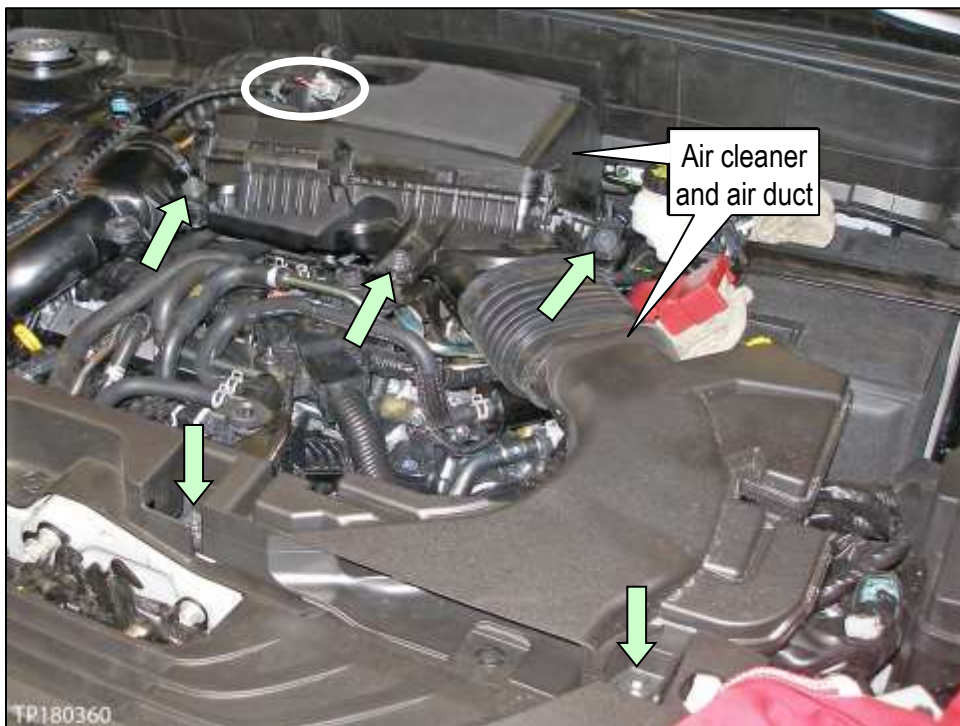

Figure 7
- a. Disconnect the mass air flow sensor connector, and then unfasten the electrical harness clip (see white oval in Figure 7).
- b. Remove the nut and bolts (see arrows in Figure 7).